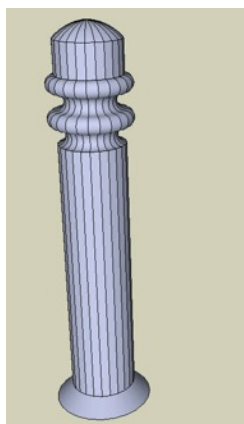

Figure 87. The completed bollard with original Default Style
- When completed use **WINDOW/Style/Default Style** to return the model to its original solid style as shown in Figure 87.